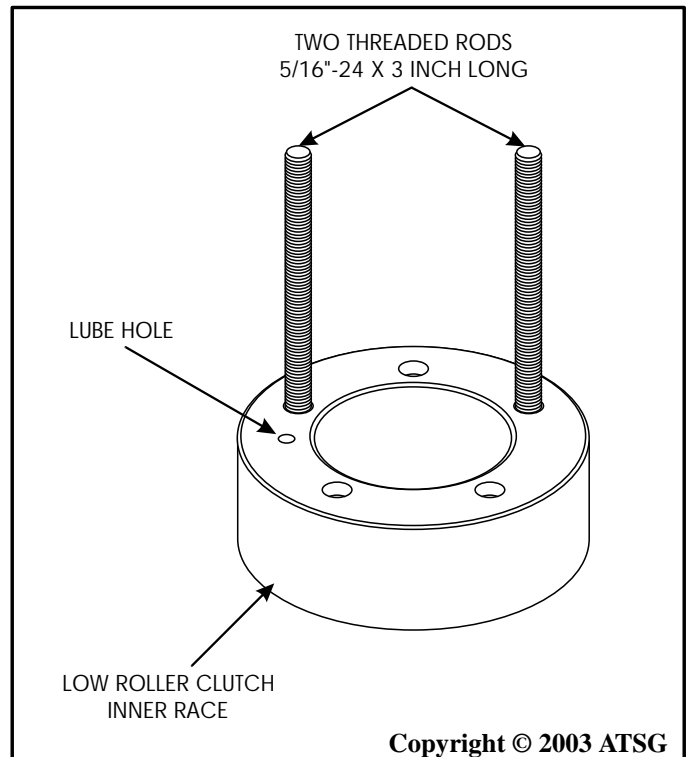

Figure 84
13. Install two threaded rods into the low roller inner race, as shown in Figure 84. They can be made from bolts with the head removed.